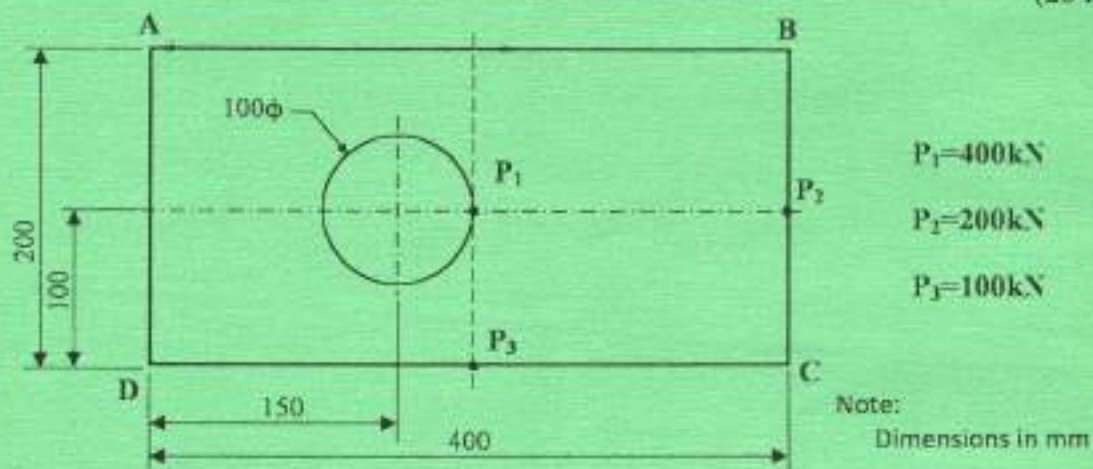

Fig. 1
1. A column of size 200 x 400 mm has a hole of size 100 mm diameter located off centre as shown in figure 1. The column carries three axial loads of magnitude 400 kN, 200 kN and 100 kN positioned as shown. Determine: